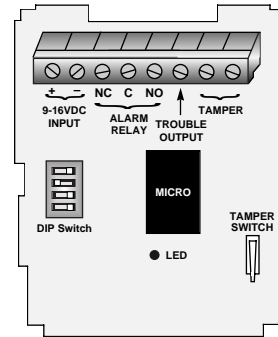

Figure 4. Wiring Details
1. Bring all wires through the wire access slot at the top of the detector base near the terminal block, and connect to the screw terminal. See Figure 4 for terminal designations.